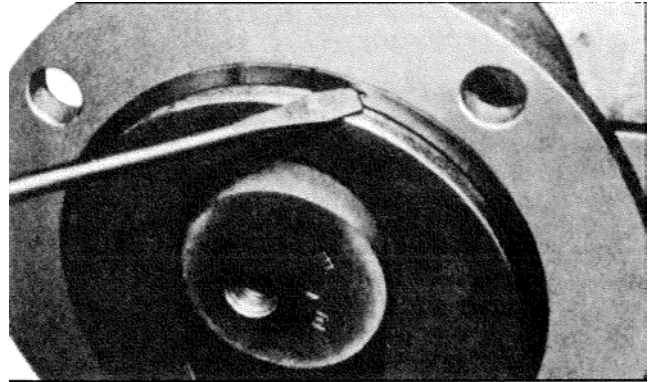

Figure 4.3. Typical Retaining Ring Removal
2. Remove section of discharge pipe attached to discharge flange (37).
3. Remove top half of stator support (31).
4. Unbolt stator clamp ring (36A) from suction housing (29). Pull stator off rotor (see methods below). Remove stator gasket (34). Use a screwdriver tip to carefully remove stator retaining ring (35) (See Figure 4-3.). Remove stator clamp ring (36) from stator (30).